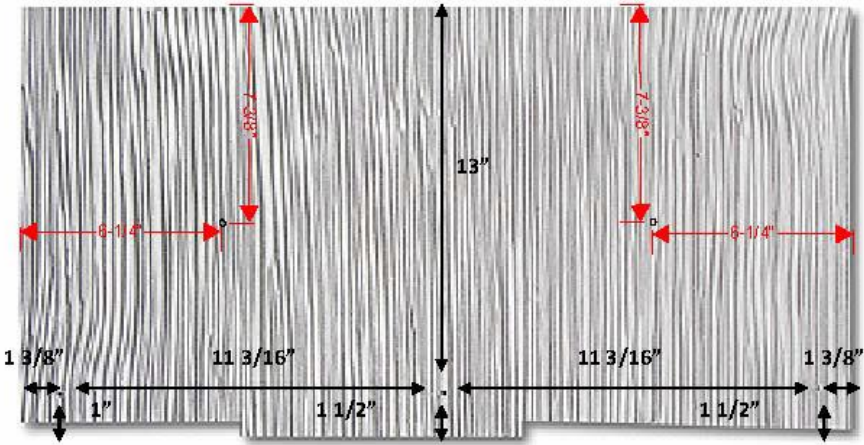

Figure 6: Emphasis™, 5-nails/shingle
**Installation:** Wall studs must be minimum 2x4 SPF dimension lumber spaced a maximum of 16" on center. Wall bracing must be installed as required. The walls must be fully sheathed with minimum 19/32" wood structural panels. A building paper must be applied to the walls before installing the shingles. The shingles must be fastened to the wood structural panel sheathing using five 12-gauge x 1-3/4" long, hot-dip galvanized, ring-shank nails. Refer to Figure 6 for nail hole locations. Flashing, trim, and corners should be installed according to the manufacturer's specifications.